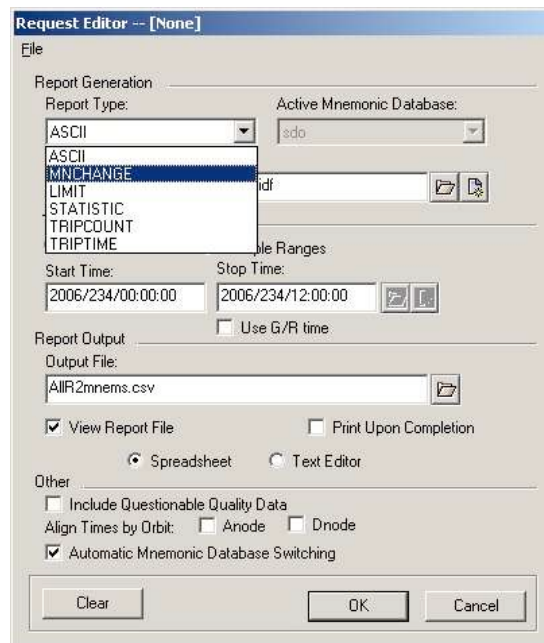

Figure 49: Request Editor Window
- Select a Mnemonic Change (MNCHANGE) report from the ITPS Request Editor window (see *Figure 49*).